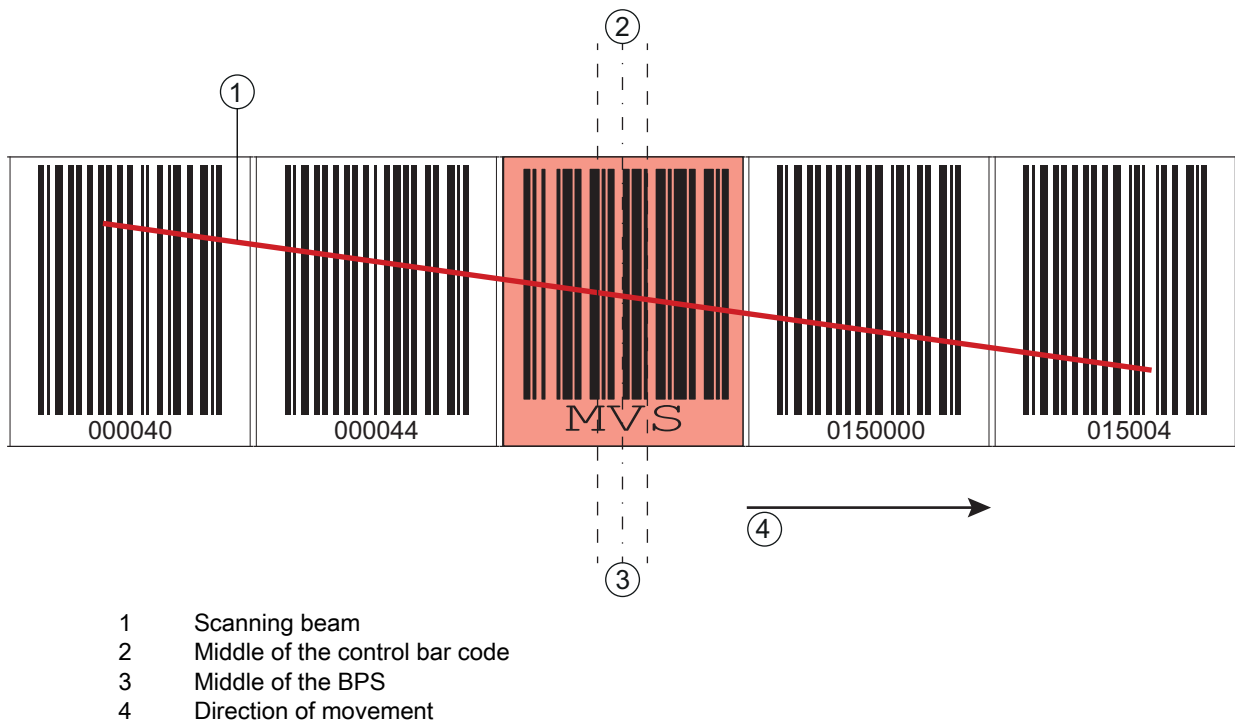

Figure 3.12: Changeover position with *MVS* control bar code for BCB changeover
- If the center of the BPS reaches the transition point of the control bar code, the device switches to the second BCB, provided the next position label is in the BPS's scanning beam (see figure 3.12). The output position value is thereby always uniquely assigned to one BCB.